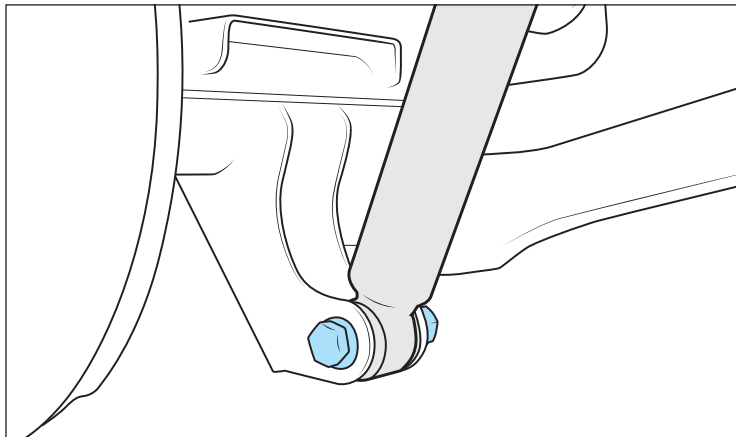

Figure 4
6. Remove the lower bolts from the shocks and SAVE HARDWARE (fig. 4).